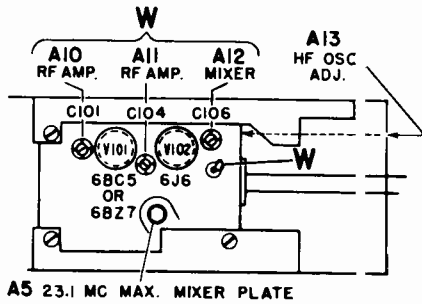

Figure 11. Top of TV Tuner, Showing Adjustment Location.
- c. Connect oscilloscope through a 10,000 ohm resistor to test point "W" on tuner (Fig. 11). Keep scope leads away from chassis.